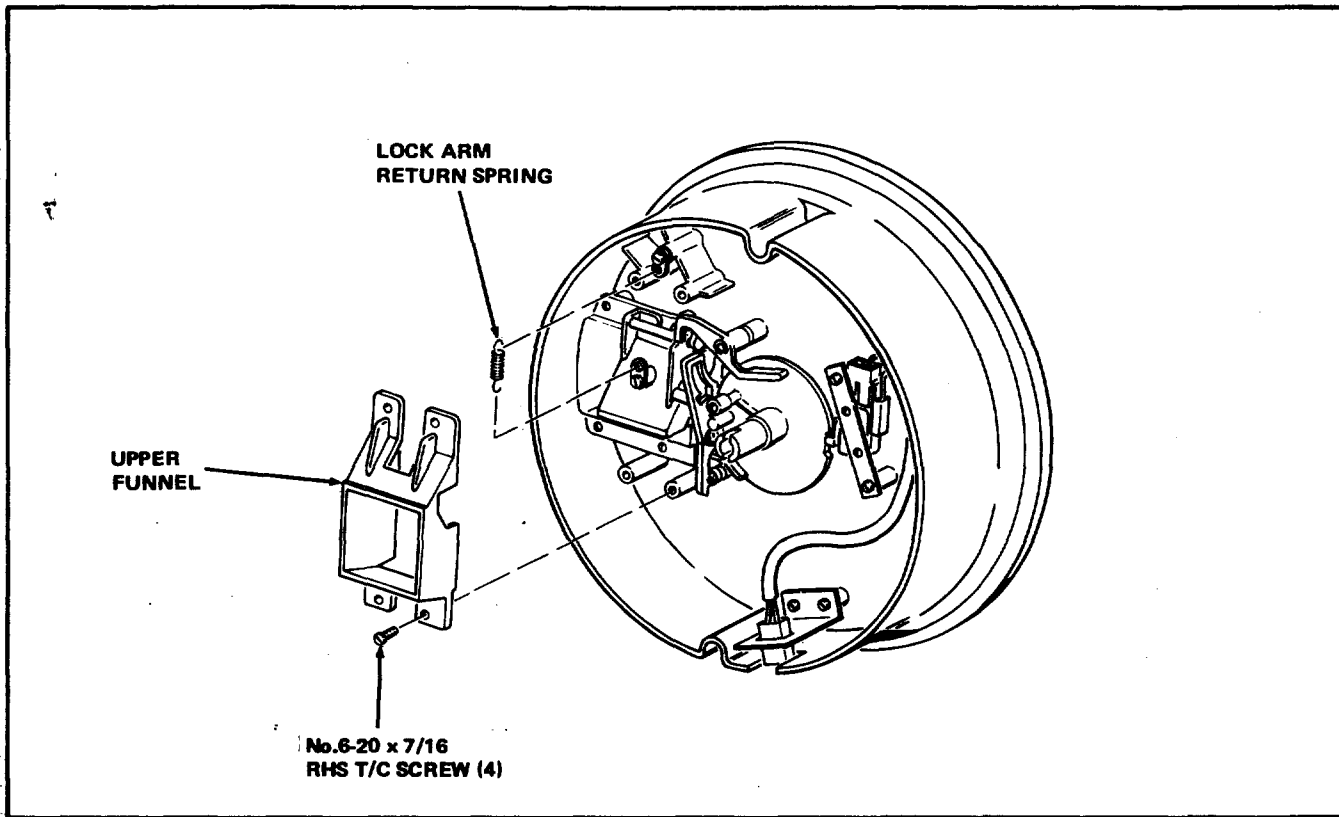

FIGURE 7
10. Install the Lock Arm Return Spring in the Coffee Hopper Base by attaching to the two Spring Retainers. See Figure 7.
11. Install the Upper Funnel over the Main Trap Door in the Coffee Hopper Base by using four No.6-20 x 7/16 Round Head Thread Cutting Screws, removed in Step A-13. See Figure 7.